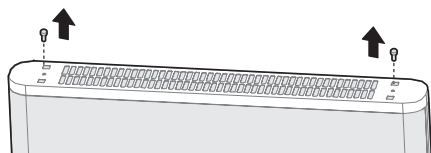

Figure 1
1. According to Figure.1, turn the body down with the bottom upward, and the screw out onboard screws.